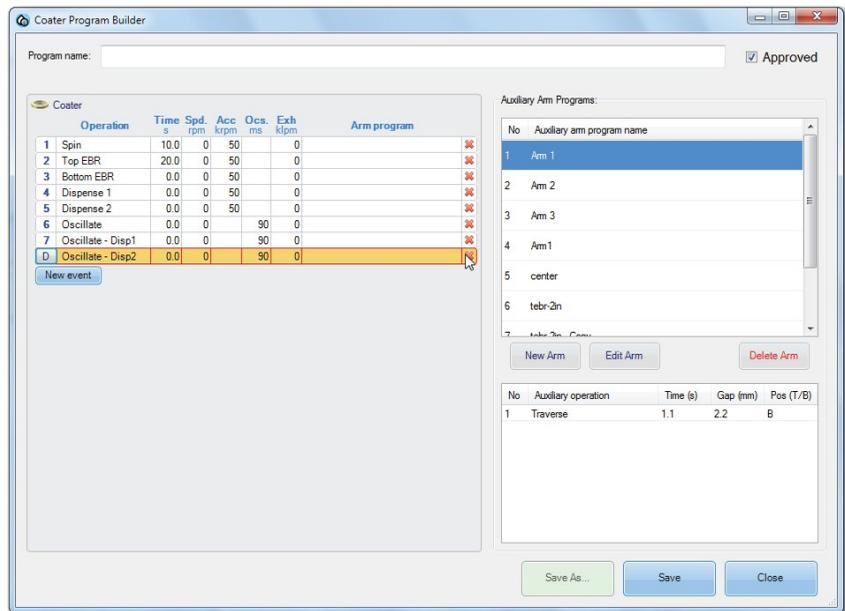

FIGURE 3-20: Deleting an event from the Coater Program Builder
*If for some reason you want to remove an event from the Coater Program Builder, simply click the corresponding letter **X** and then the letter **D**, as shown in Figure 3-20. The event will be removed when the page refreshes.*